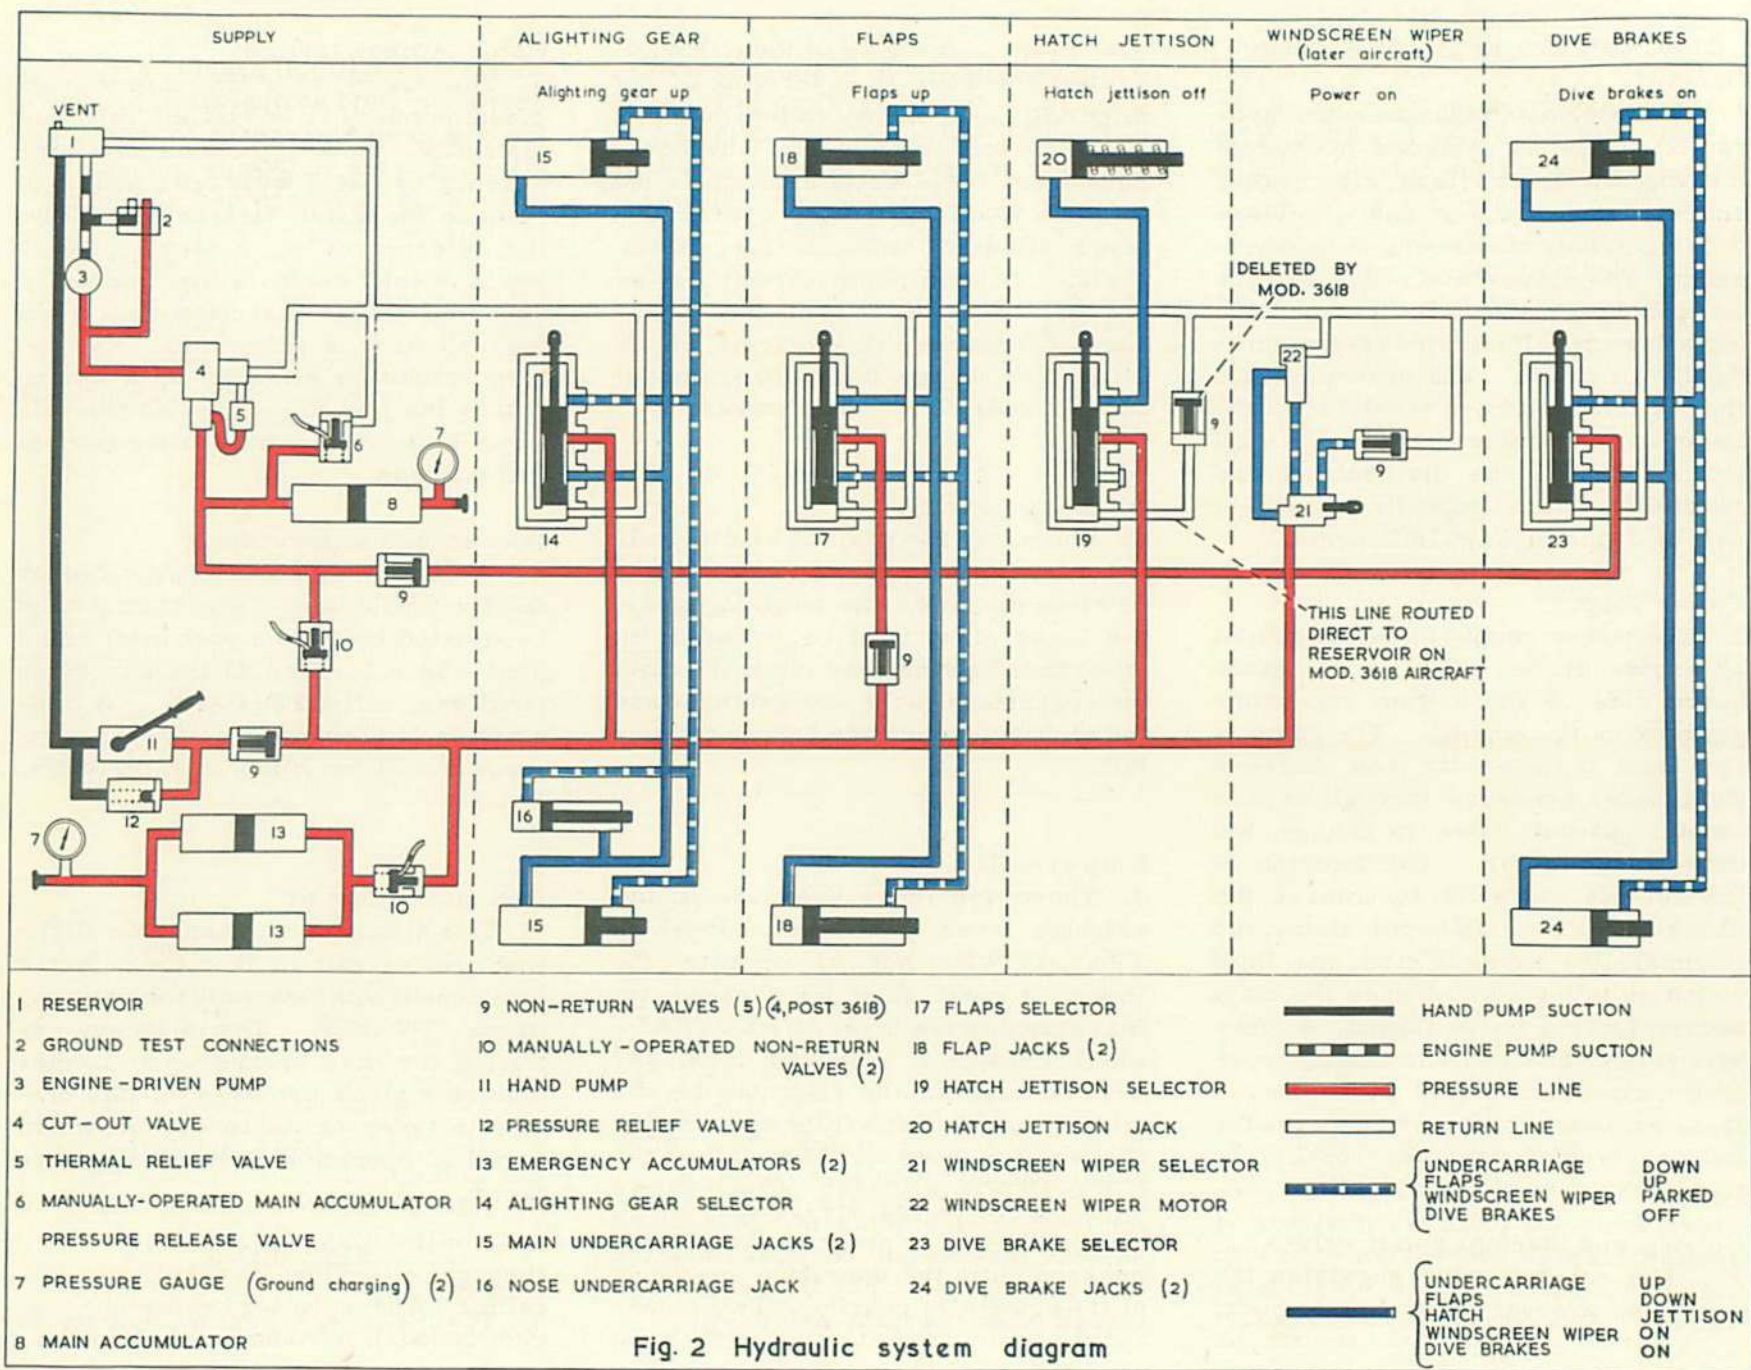

Fig. 2 Hydraulic system diagram
1. The Lockheed high-pressure hydraulic system is designed to operate the alighting gear, flaps, dive brakes and windscreen wiper, and to release the canopy hatch fasteners in an emergency. The disposition of the various components is shown in fig. 1 and the installation is illustrated diagrammatically in fig. 2. The pressures and fluid specification are tabulated in the Leading Particulars, and a detailed description of the dismantling and servicing of each hydraulic component will be found in A. P. 1803 series.